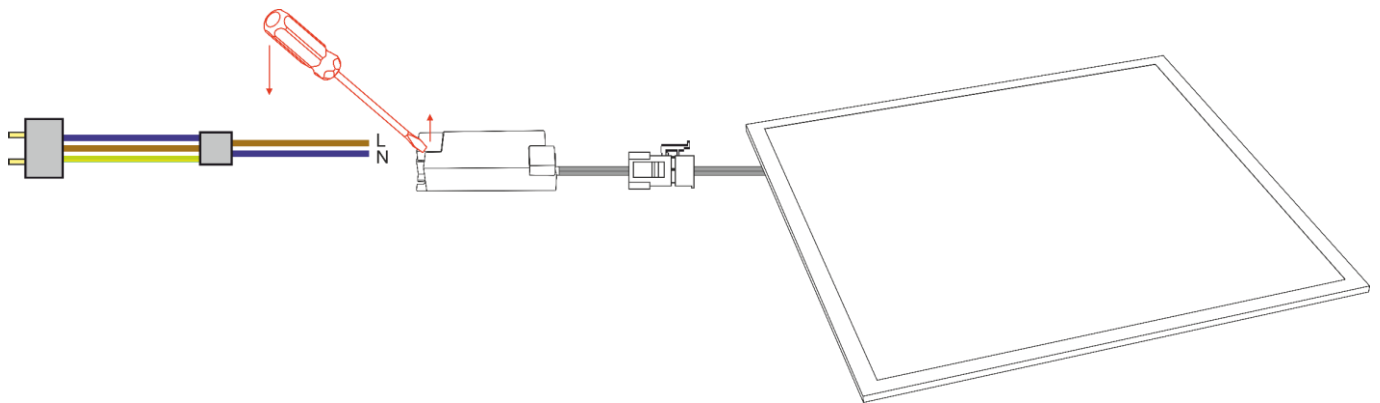

Fig. 05
- 01) Make sure that you connect all products before connecting to the mains power, as shown in Fig. 05.